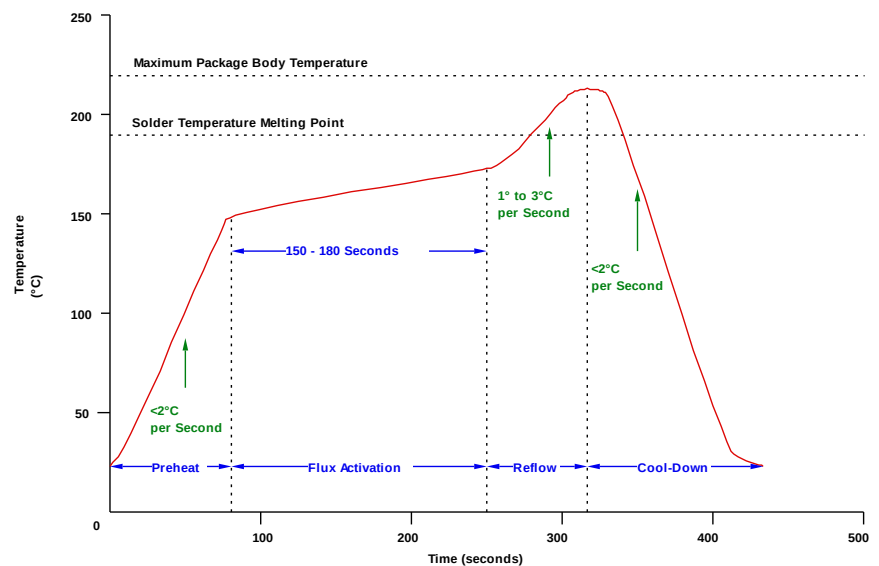

Figure 11: Recommended Reflow Profile – non RoHS
- (4) Surface tension between the adaptor's solder spheres and the target PCB's pads will self-align the part during the reflow process.
- (5) Reflow as per (Figure 11):